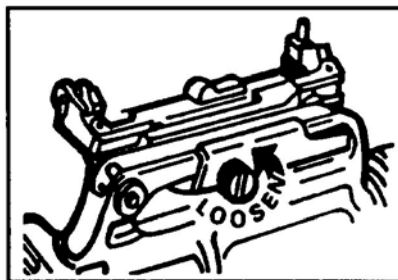

Figure 2. Removing quadrant sight.
- a. Remove the quadrant sight (if used) by loosening the knurled screw on the right side (Figure 2).